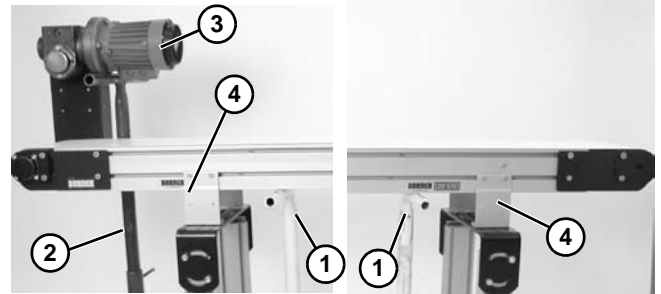

Figure 48
1. Place temporary support stands (**Figure 48, item 1**) at both ends of the conveyor. Place an additional support stand (**Figure 48, item 2**) under the drive motor (**Figure 48, item 3**), if equipped. See WARNING.
2. Remove mounting brackets (**Figure 48, item 4**) from one side of conveyor. (Reverse steps 2 & 3 of “Mounting Brackets” section on page 18).
1. Ensure temporary support stands (**Figure 48, item 1**) are placed at both ends of the conveyor. Place an additional support stand (**Figure 48, item 2**) under the drive motor (**Figure 48, item 3**), if equipped. See WARNING.